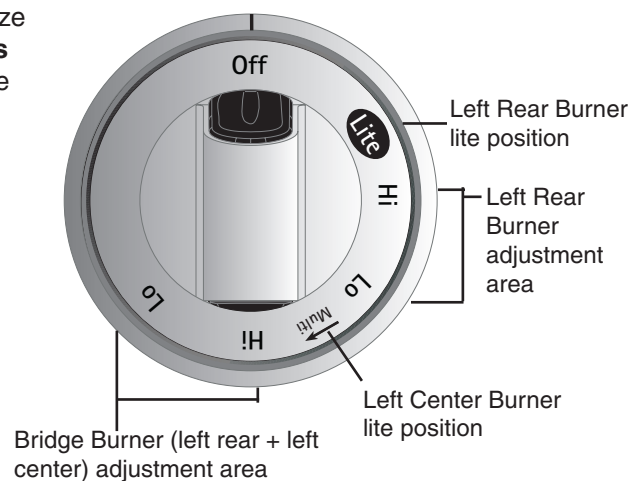

Fig. 3
4. Visually check that the left-rear burner has lit. Adjust the flame size by turning the control knob between the **first HI and LO settings** (See Figure 3). **DO NOT** cook with the surface control knob in the LITE position (The electronic ignitor will continue to spark if the knob is left in the LITE position).